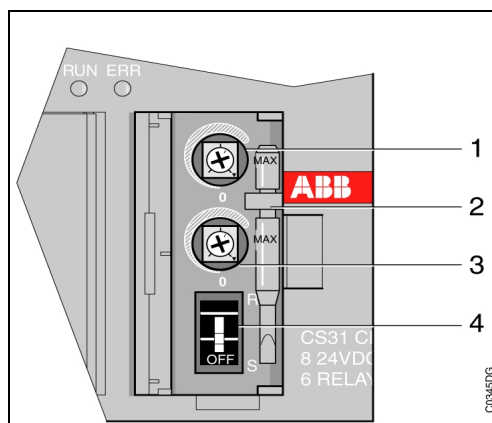

Figure 2-2: Magnification of item 9, cover removed
**Magnification of item 9, see figure 2-2 on the previous page**